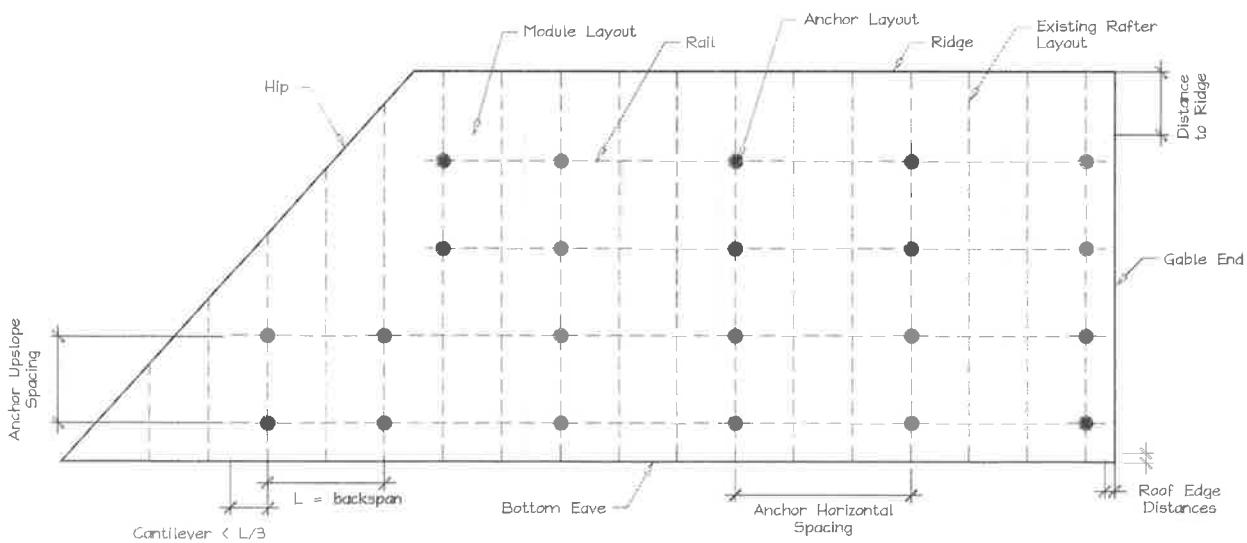

Figure 2. Sample Solar Panel Array and Anchor Layout Diagram (Roof Plan).
E. Is a roof plan of the module and anchor layout attached? (see Figure 2)
1) Proposed anchor horizontal spacing (see Figure 2): _____ ' - _____ "ft-in
1. Anchors are also known as “stand-offs”, “feet”, “mounts” or “points of attachment”. Horizontal anchor spacing is also known as “cross-slope” or “east-west” anchor spacing (see Figure 2).